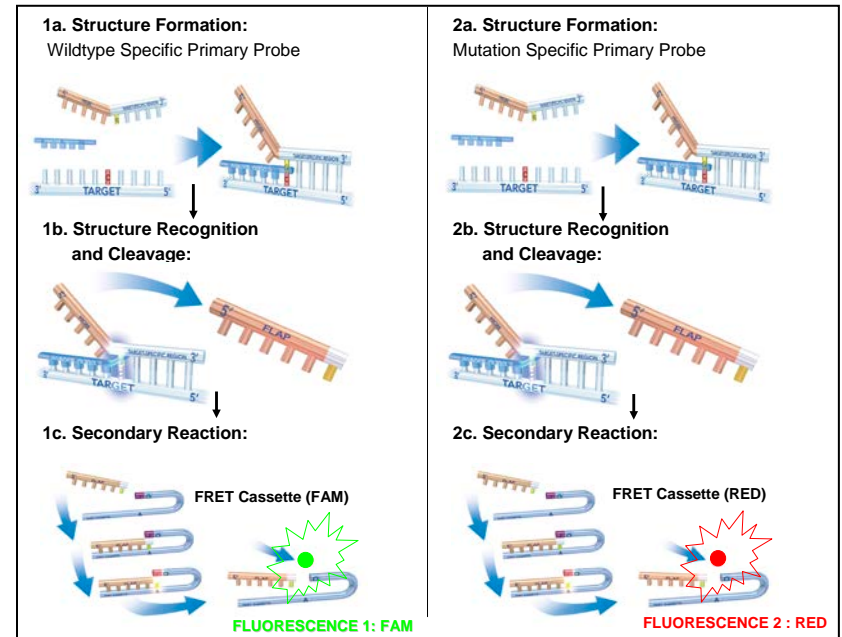

Figure 1: Invader® Signal Generation Phase
The Invader® MTHFR 1298 test utilizes the Invader Plus® chemistry with DNA isolated from human whole blood for the detection of the targeted sequence polymorphism. Specifically, the Invader Plus® chemistry utilizes a single-tube, two phase reaction, including target amplification and signal generation (mediated by Invader® chemistry). Invader Plus® reaction mixes are assembled by combining the MTHFR 1298 Oligo Mix, Universal Enzyme Mix, and Universal Buffer. In a 96-well plate, reaction mix is combined with purified genomic DNA samples, as well as four (4) controls included with the test. The No DNA Control is used by the interpretive software to set the "noise" component of the run for "signal-to-noise" calculations. The genotype-specific controls (WT, HET, MUT) ensure reagents were assembled correctly and perform according to the specifications. The 96-well plate is transferred to an appropriately programmed thermal cycler for target amplification and signal generation. In the target amplification phase of the reaction, amplification is carried out using "two-step" cycling conditions (i.e., denaturation & annealing/extension). Following amplification, Taq polymerase is inactivated by a 10 minute incubation at 99°C, after which the thermal cycler proceeds to 63°C to initiate the signal generation (Invader®) phase of the reaction (see Figure 1).
During the signal generation phase, a discriminatory Primary Probe transiently hybridizes to the amplified target sequence along with an Invader[®] oligonucleotide, to form an overlapping structure. The 5'-end of the Primary Probe includes a 5'-flap that does not hybridize to the target DNA. The 3'-nucleotide of the bound Invader[®] oligonucleotide overlaps the Primary Probe, and does not hybridize to the target DNA. The Cleavase[®] enzyme recognizes this overlapping structure and cleaves off the unpaired 5'-flap of the Primary Probe, releasing it as a target-specific product. The Primary Probe is designed to have a melting temperature aligned with the Invader[®] reaction temperature so that under the isothermal reaction conditions (~63°C) the Primary Probes cycle on and off the target DNA. This allows for multiple rounds of Primary Probe cleavage for each DNA target resulting in an accumulation of the number of released 5'-flaps. The initial reaction, the released 5'-flap transiently hybridizes with a corresponding FRET cassette forming an overlapping structure that is recognized and the fluorophore is cleaved from the FRET cassette by the Cleavase[®] enzyme. The 5'-flap is designed to have a melting temperature aligned with the Invader[®] reaction temperature, so that the 5'-flaps cycle on and off of the corresponding FRET cassettes. This allows for multiple rounds of FRET cassette cleavage for each 5'-flap, and an accumulation of released fluorophore. When the FRET cassette is cleaved, a fluorophore and quencher are separated, generating detectable fluorescence signal. The format uses two different discriminatory Primary Probes, one for the mutant allele and one for the wild type allele (Figure 1). Each Primary Probe is assigned a unique 5'-flap, and distinct FRET cassette, with a spectrally distinct fluorophore. By design, the released 5'-flaps will bind only to their respective FRET cassettes to generate a target-specific signal, linking the wild type allele with one fluorophore (Fluorescence 1: FAM) and the mutant allele with the second fluorophore (Fluorescence 2: RED).